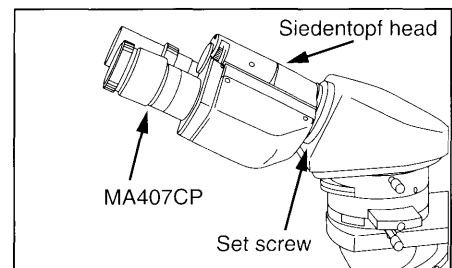

Figure 3
- Install the Siedentopf head with the 2mm allen wrench supplied being careful to align the notch in the head with the set screw. (Fig.3) Next, install the MA407CP focusing eyepiece by sliding it into the slotted right eyetube and install the other eyepiece (MA407) into the left eyetube. The rubber eyeshields can also be installed on top of each eyepiece. **The eyepieces for MT9000 Series are a DIN standard 23.2mm diameter.**